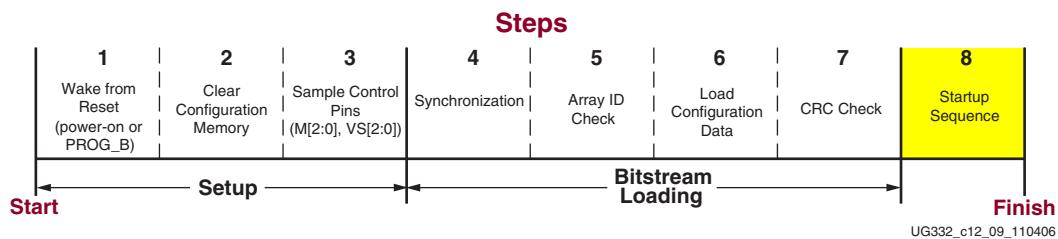

Figure 12-11: Startup Sequence
3. Hold the DONE pin Low, which prevents the FPGA from completing the Startup Sequence, shown as Step 8 in Figure 12-11, page 251.